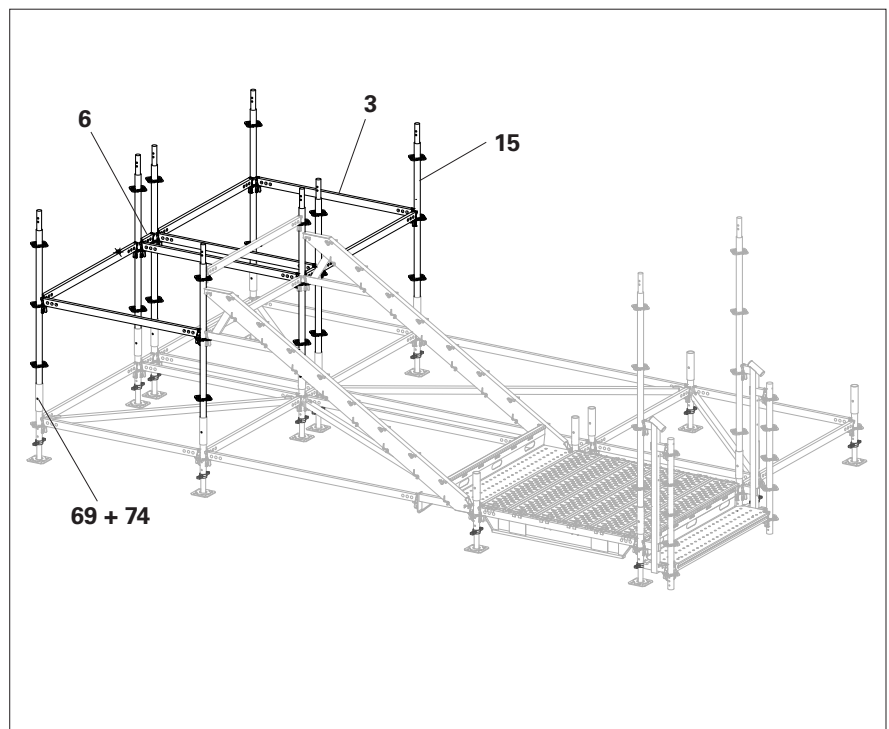

Fig. B2.02
4. Connect the centre standards with Horizontal Ledgers UH-2 25 (**6**). (Fig. B2.02)